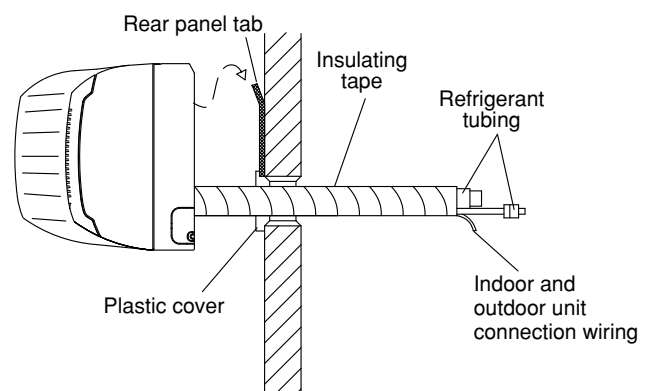

Fig. 3-60
(1) Shape the refrigerant tubing so that it can easily go into the hole. (Fig. 3-60)
(2) After performing a leak test, wrap both the refrigerant tubing and drain hose together with insulating tape.